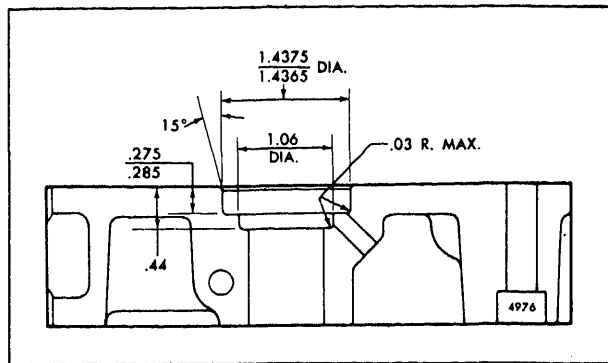

Fig. 4 - End Plate Oil Drain Back Counterbore
10. Remove the finish cutting tool and install an end mill to machine the additional 1.06" diameter counterbore. The total depth of the combined counterbores is .44" (Fig. 4). The additional counterbore provides proper oil drain back from the oil seal area.